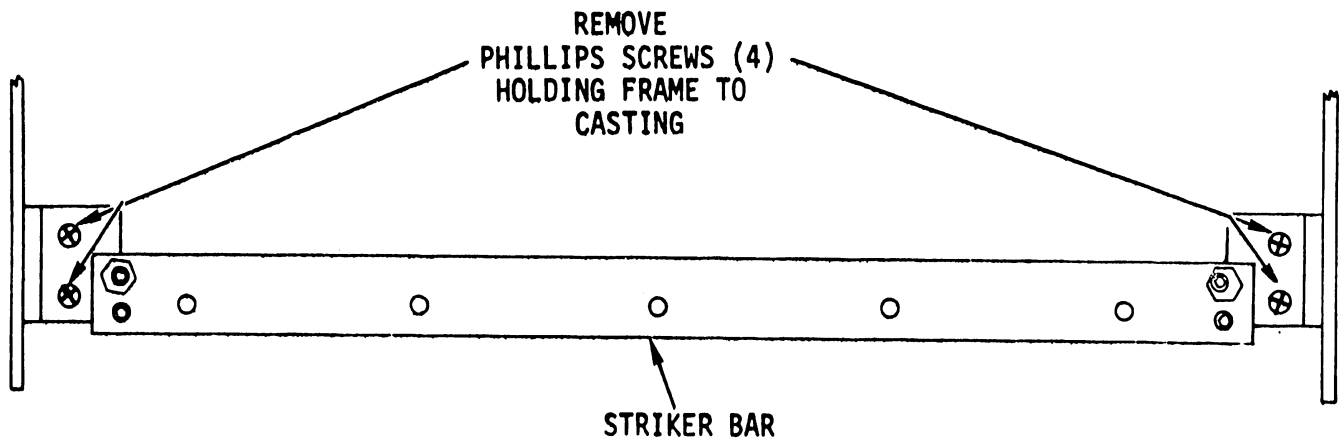

FIGURE 5-33 FRAME ASSEMBLY REMOVAL AND REPLACEMENT
- 5) Remove the four Phillips screws holding the frame assembly to the casting. They are located (2) on each side of the striker bar. See Figure 5-33.